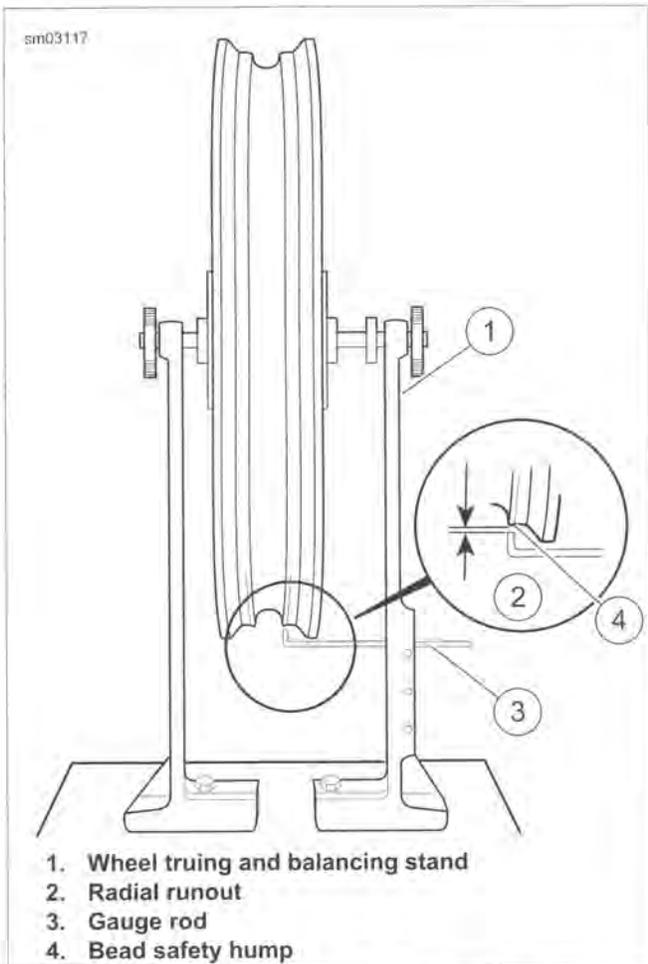

Figure 2-29. Checking Radial Runout
1. See Figure 2-29. With the wheel mounted in WHEEL TRUING STAND (Part No. HD-99500-80), adjust the truing stand gauge (3) near to the rim's tire bead safety hump (4). If using a dial indicator, place the tip on the safety bead hump.